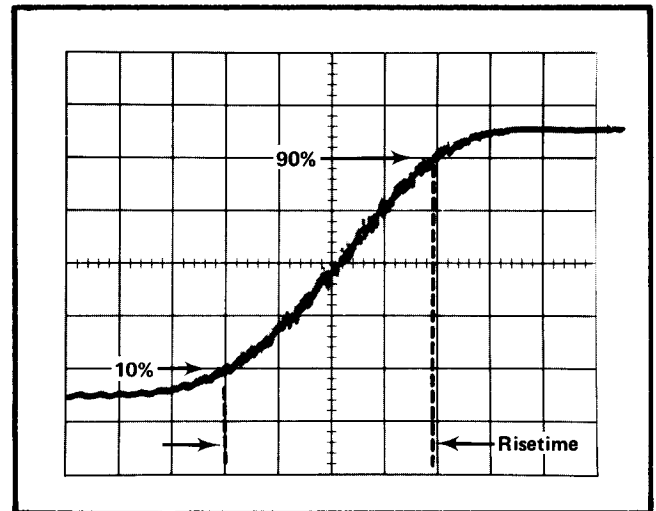

Fig. 5-11. Typical risetime waveform.
(1) Connect a 42 inch coaxial cable from the Type 106 Trigger Output to the 3T2 1 M $\Omega$  Trigger Input Connector.
(2) Connect the + Output connector of the Type 106 Square Wave Generator to the Channel A Input connector of the 3S1, using a 2 ns cable (item 17).
(3) Set the Type 106 Square Wave Generator frequency to 250 kHz and adjust the + Transition Amplitude to obtain a 5 division display on the Sampling System CRT.
(4) Measure and record the display risetime as measured between the 10 and 90% amplitude points. See Fig. 5-11.
(5) Adjust the Channel A and Channel B Position controls equally to set the top of the display to graticule center. Then switch the Channel A and Channel B mVolts/Div to 5 mV.